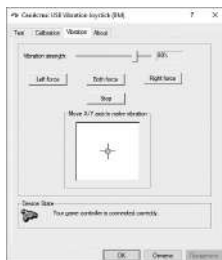

Fig. 12
• By pressing the «Both force» button, in the «Vibration Test» tab, you can check the operation of both vibrators together or separately, by pressing the «Left force» and «Right force» buttons. Also you can do it by rotating the left joystick in the analog mode of operation or by pressing the D-Pad in the digital mode of operation (Fig. 12). To stop the test, press the «Stop» button. Moving the cursor in the row «Vibration strength» we can increase or decrease the force of vibration. To save the settings, click «Apply» or «OK» button in the bottom line of this window.